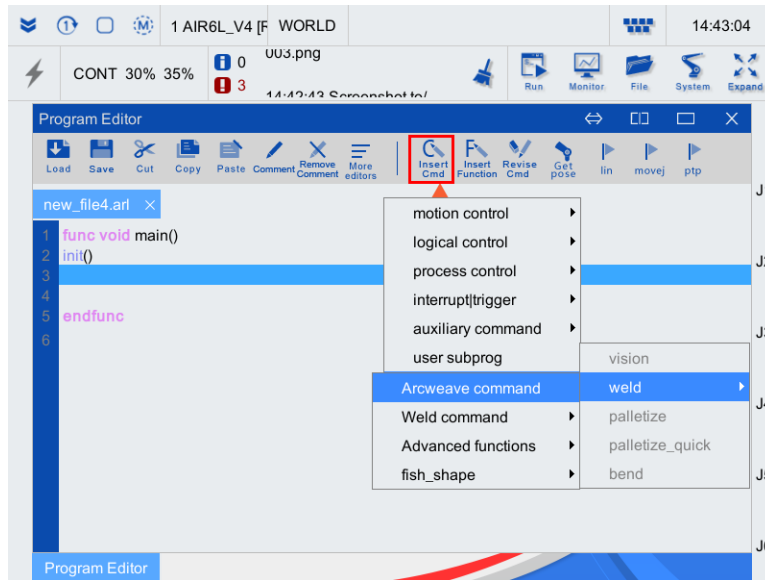

Fig. 5-3 Path to enter the program editing area
- Step 3. Click "Insert Cmd"-> "Package"-> "weld" to pop up the drop-down list of arc welding. You can set the weave instruction, welding instruction, advanced functions and fish scale welding, as shown in Fig. 5-3.